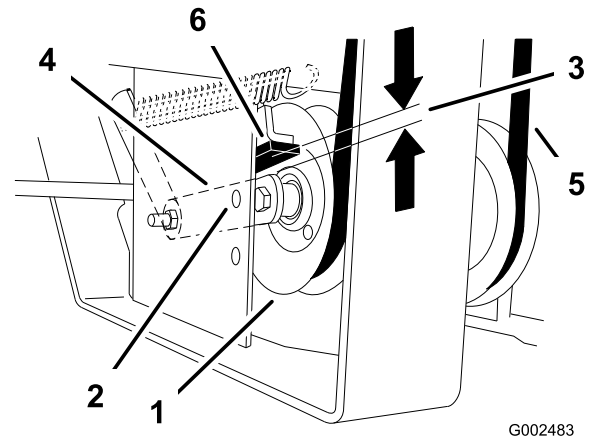

Figure 60
- Check the distance from the rubber stop and the arm of the spring loaded idler pulley when the idler plate is tightened. It needs to be 0 to 1/4 inch (0 to 6 mm) from the rubber stop (Figure 60).